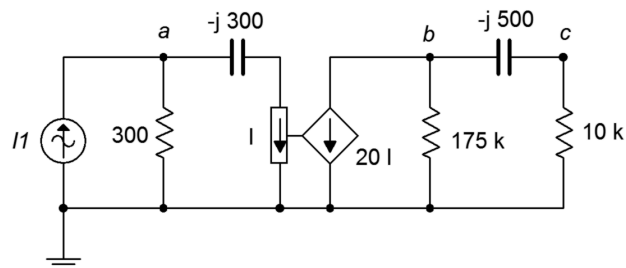

Figure 5.16
31. Determine v_b in the circuit of Figure 5.16 if the source $I I = 20\text{E}-3\angle 0^\circ$.
32. Determine the current through the 10 k Ω resistor in the circuit of Figure 5.16 if $I I = 10\text{E}-3\angle -90^\circ$.